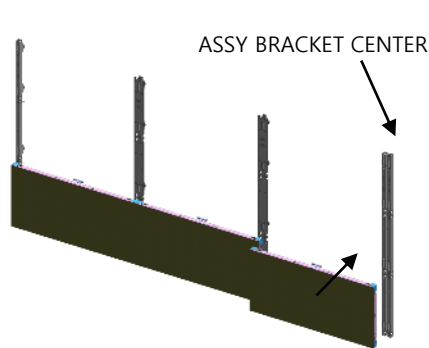
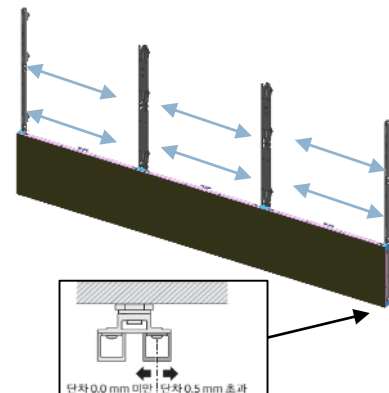

Fig5. Install cabinets
Fig7. Adjust flushes
- ⑤ Install the ㉔ASSY BRACKET CENTER instead of the ㉑ASSY BRACKET SIDE on the right side.
- ⑥ Install cabinet from the bottom row. [Fig.5]
- ⑦ After completed installation of cabinet, Check the flushes between LED Module and both end cabinet by pushing the LED Modules towards the center.
- ⑧ Make the left and right flushes equal, and then adjust the flushes according to the following criteria. [Fig.7]